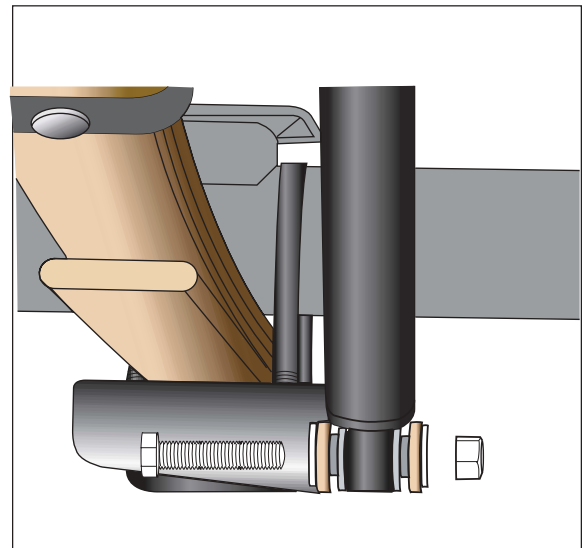

Figure 3
1. Remove and reverse the lower shock bolts so the bolts are inserted from the outside in (Figure 3).
Stability translates into safety and should be the priority, meaning the driver may need to sacrifice a perfectly level and comfortable ride. Stability issues include roll control, bounce, dive during braking and sponginess (fig. 3). Tuning out these problems usually requires an increase in pressure.